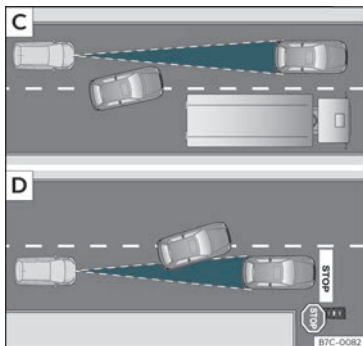

Fig. 165 [C] Vehicle changing lanes. [D] One vehicle turning and another stationary.
- Vehicles that move into your lane, a short distance from your vehicle >>> Fig. 165 [C].
The ACC does not react to stationary vehicles. If, for example, a vehicle detected by the ACC turns or moves over and there is a stationary vehicle in front of it, the ACC will not react to the second vehicle >>> Fig. 165 [D].